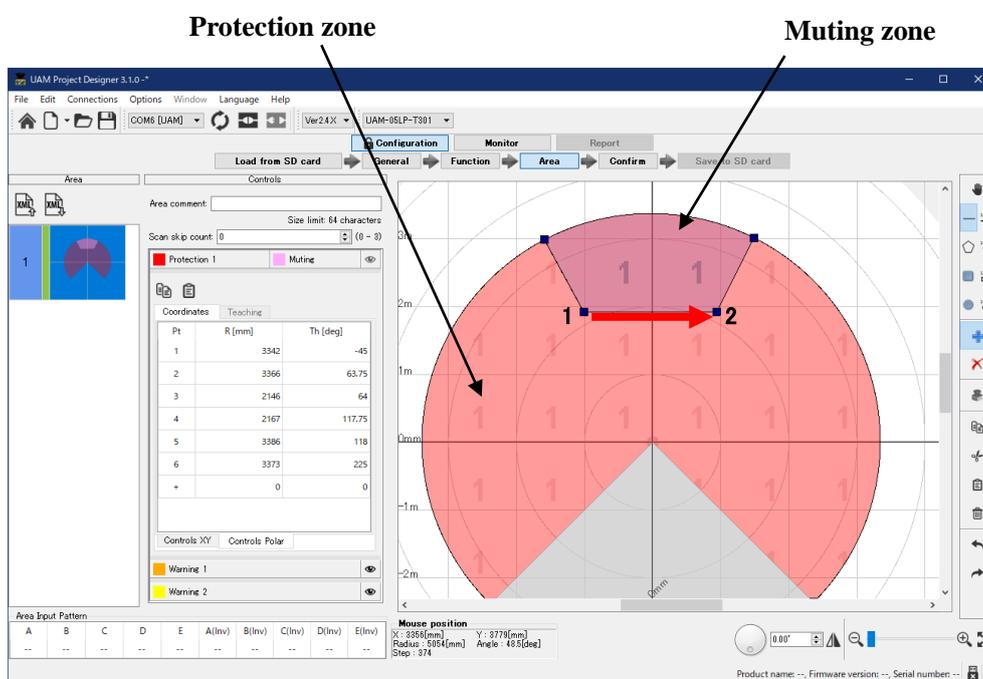

Figure 7-48 Muting zone configuration example 1
- Figure 7-48 and 7-49 shows an example of the muting zone configuration. Region in pink represents the muting zone.